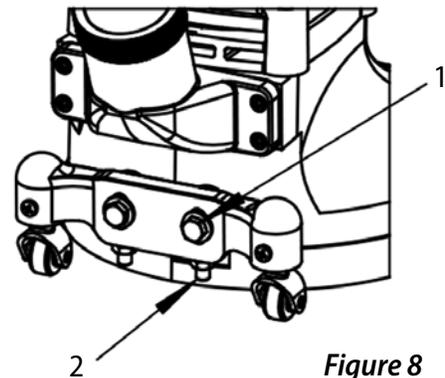

Figure 8
- 1 Using the special wrench, loosen the lock nut on each caster. See (1) Figure 8.
- 2 Loosen the jam nut. See (2) Figure 8.